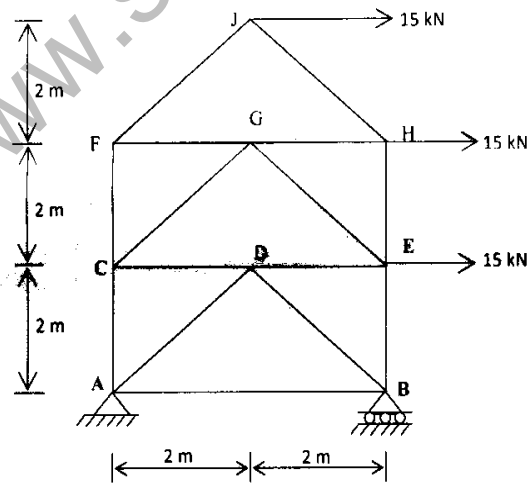

Fig. 4
4. (a) Determine support reaction and the force in members AC and BE, of a truss as shown in Fig. 4